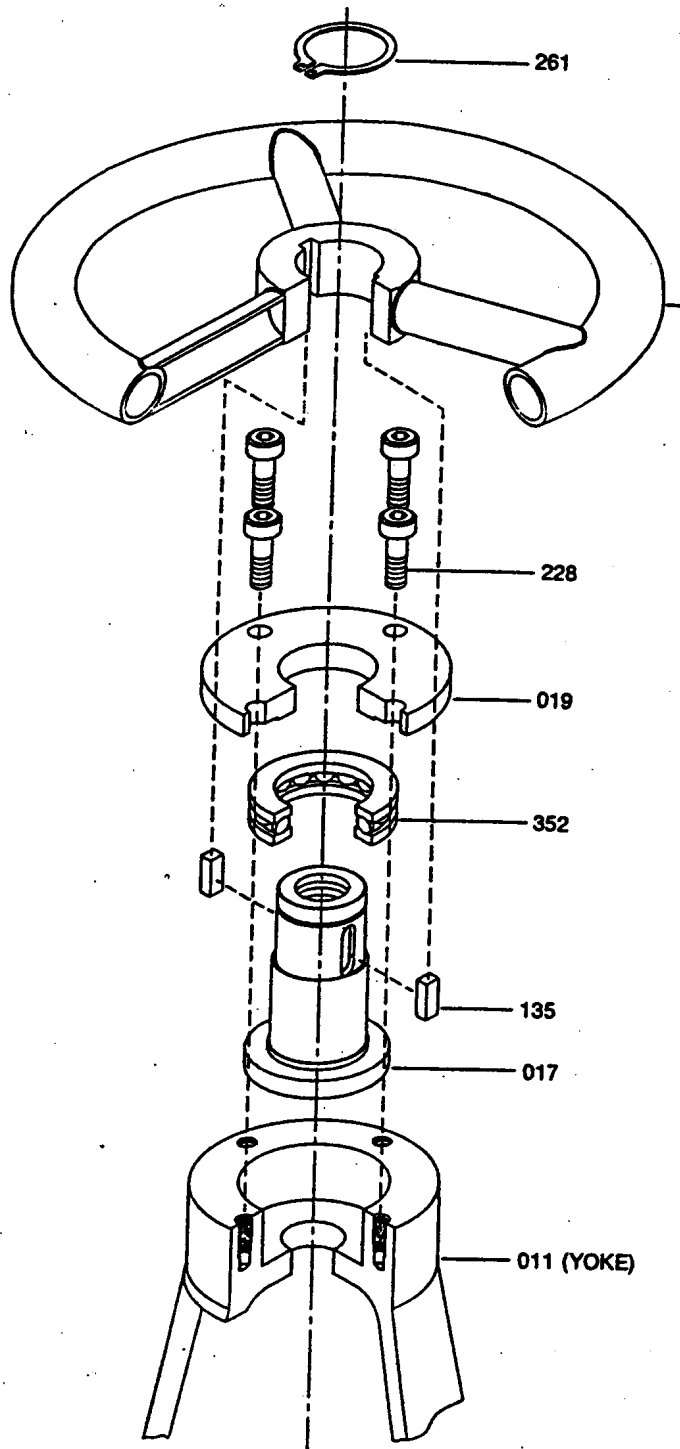

FIGURE 10
6.1.1 **Handwheels:** On handwheel actuated valves (Fig. 10) the handwheel can be removed by removing the retaining ring (261) and pulling the handwheel (136) off the yoke sleeve (017). Care should be taken not to lose the handwheel keys (135).